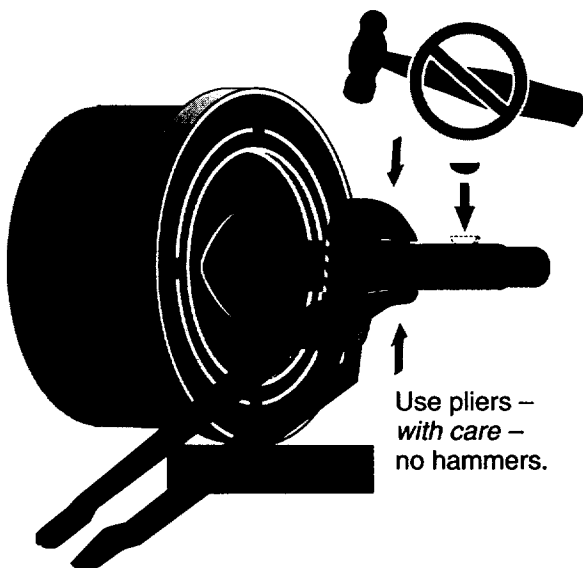

Figure 23
3. Make sure that the shaft keys are in place on the shaft. If they are not, squeeze them in place now with slip joint pliers. *Do not tap them or hit them with a hammer; you could bend the shaft* (see Figure 23). When the keys are correctly installed, the adapter will pass over the keys without interference.